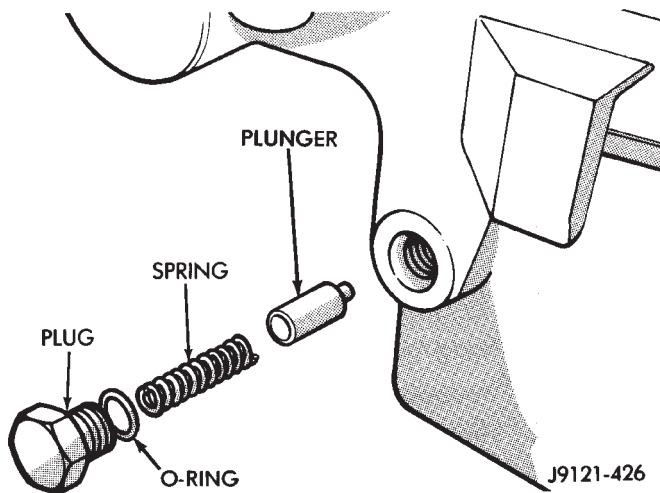

Fig. 41 Installing Detent Plunger, Spring And Plug
(23) Install range lever and lever attaching nut on shift sector. Tighten attaching nut to 30 N·m (22 ft. lbs.) torque.
(24) Install detent plunger, spring and plug (Fig. 41). Tighten plug to 20 N·m (15 ft. lbs.) torque.